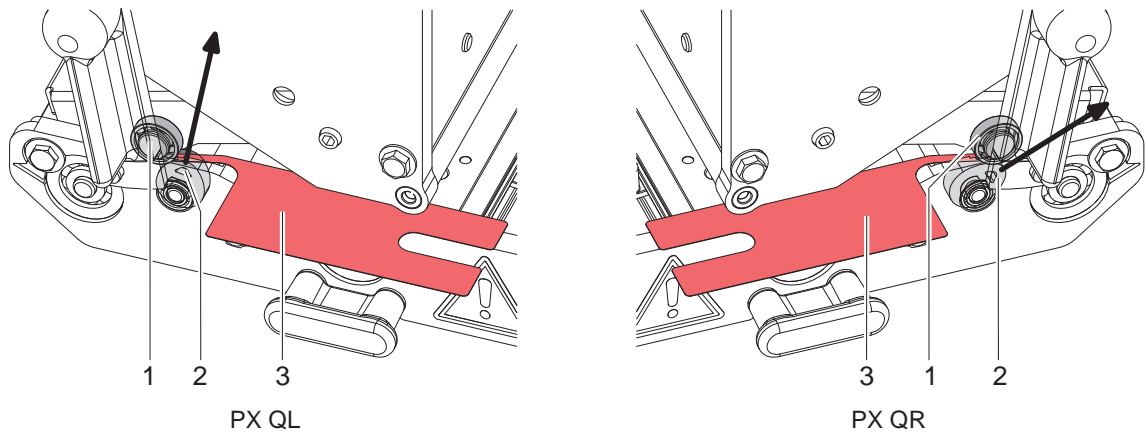

Figure 22 Checking the eccentrics position
**In the print position the peak of the eccentric (2) at PX QL and at PX QR must**
- stand on the right of the ball bearing (1) ▷ Figure 22.
6. Check the distance between ball bearing (1) and eccentric (2) with the 0,1 mm gauge (3).